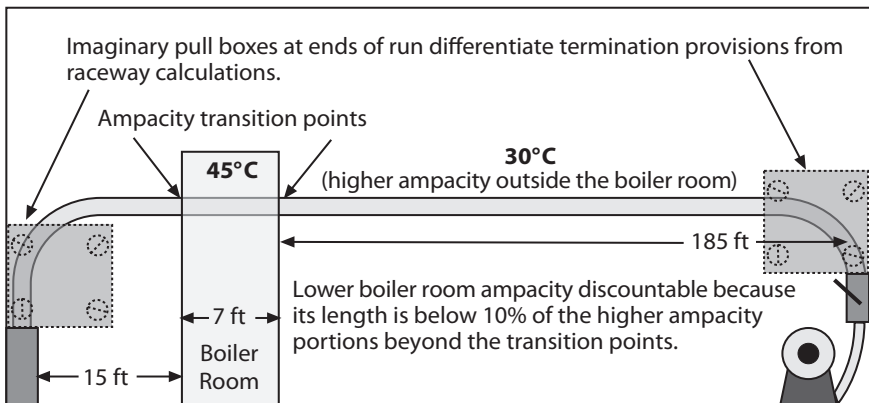

Fig. 26–7 There is a limited exception to the weak-link-in-the-chain principle.
How (and when) to count neutrals Although neutral conductors are counted for derating purposes only if they are actually current carrying, it is increasingly common in commercial distribution systems derived from three-phase, four-wire, wye-connected transformers to find very heavily loaded neutrals. If the circuit supplies mostly electric-discharge lighting (fluorescent, mercury, and similar types discussed in Chapter 29), you must always count the neutral. In such circuits, the neutral carries a “third harmonic” or 180-Hz current produced by such luminaires. The explanation of why such luminaires produce such a 180-Hz current is far beyond the scope of this book. But be aware that the neutrals of such circuits or feeders must be counted because those harmonic currents add together in the neutral instead of canceling out, and therefore require derating. The remainder of the examples in this chapter covering feeder ampacity (Figs. 26–5, 26–6, and 26–8) that are based on the 47A continuous/68A noncontinuous profile generally assume (due to typical industrial load profiles) that the neutrals must be counted as current-carrying conductors.
Conductor ampacity derating Now that you know how to count the number of wires in a conduit for derating purposes, it's time to learn how to apply *NEC* rules to the result. Using the *NEC* directly means going from the ampacity table to the derating factor (by which you multiply), and comparing the result to the load. That's great for the inspector who checks your work, but it doesn't help you pick the right conductor in the first place. You want to go the other way: Knowing the load, you want to select the proper conductor. Consider the previous example of a feeder with 47 amps of noncontinuous load and 68 amps of continuous load. Fig. 26–5 shows the impact of whether or not neutrals are counted for derating purposes.
with 115 amps, and *divide* by the 0.96 to get 120 amps. Any 90°C conductor with an ampacity equal to or higher than 120 amps would carry this load safely. What happens if, as shown In Fig. 26–6, you have *both* a high ambient temperature and mutual heating? Divide twice, once by each factor. In this case:
When diminished ampacity applies only to a small part of the run You will run into installations where most of a circuit conforms to NEC Table 310.15(B) (16) but a small portion requires very significant derating. For example as illustrated in Fig. 26–7, your circuit may be 207 ft long, with 200 ft in normal environments and 7 ft of it passing through a corner of a boiler room with a very high ambient temperature. The NEC generally observes the weak-link-in-the-chain principle and requires the lowest ampacity anywhere over a run to be the allowed ampacity. However, for very short runs where the remainder of the circuit can function as a heat sink, the NEC allows the higher ampacity to be used.